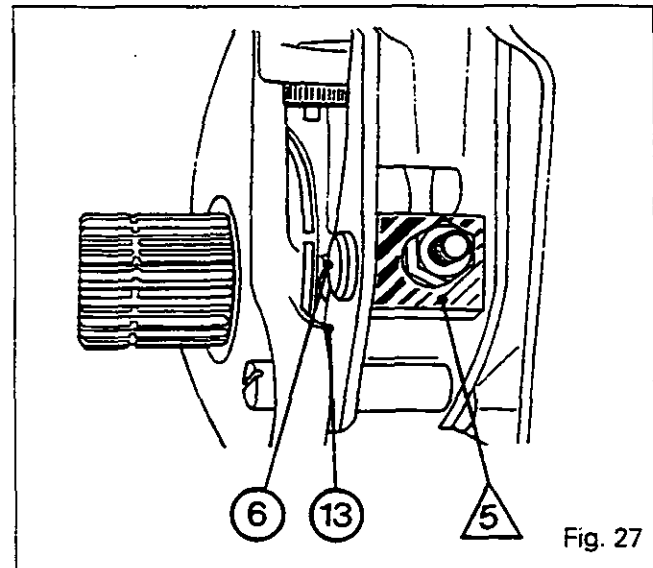

Fig. 27
Note: The plate /5\ is rectangular. It must be positioned horizontally, lengthwise, on the pin(6) in the lever (13) to be correct (Fig. 27).